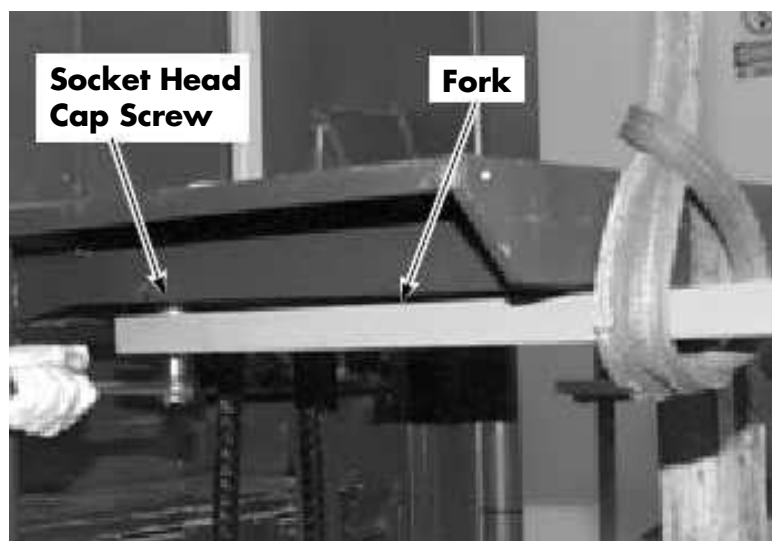

Figure 7-181. Fork Removal
3. Secure fork to hoist using a suitable strap or chain. See Figure 7-181.